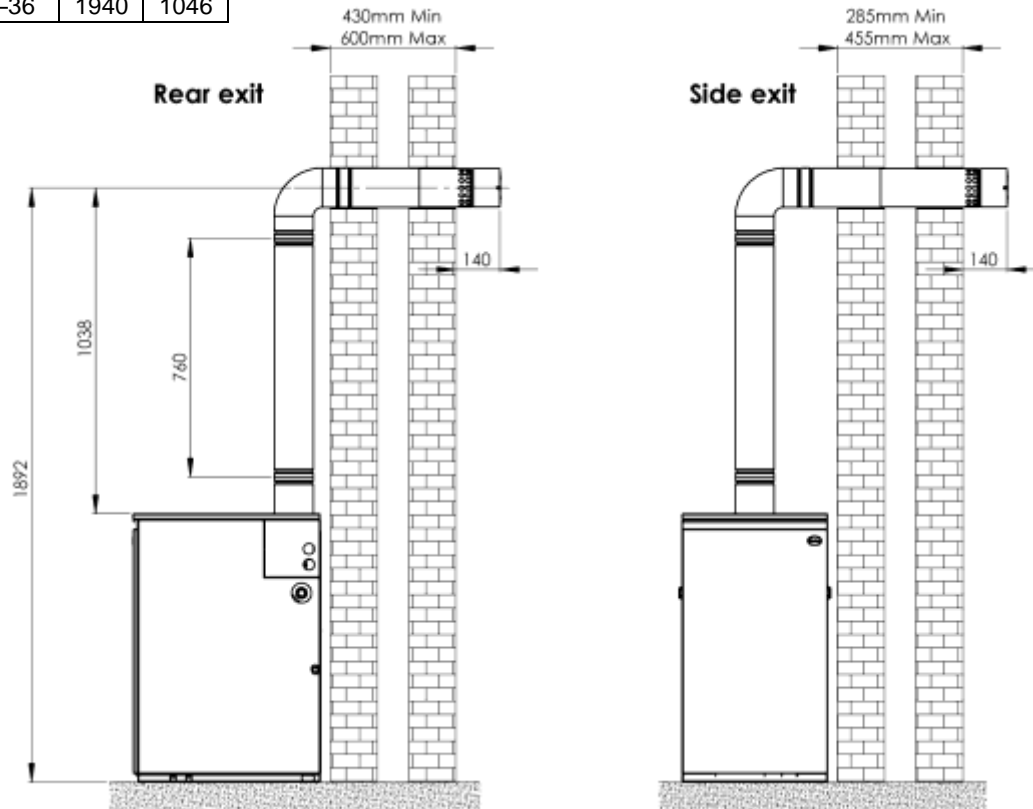

FIG. 21
- Slide the terminal (**4**) into the horizontal mid-section (**2**). Adjust the horizontal length as required, ensuring a minimum distance of 140mm is kept from the end of the terminal to the external face of the wall. Seal the outer horizontal sections together with a suitable material. See **figs 21–22** for allowable distances.
Should the height of the flue (**figs 21–22**) not meet your requirements, alternative heights can be achieved by discarding and adding different lengths. The vertical mid-section (**item 3, fig 19**) can be discarded to subtract 750mm from the total height. In this case, the horizontal elbow should instead be fitted to the lower flue section (**4**) in the same manner.